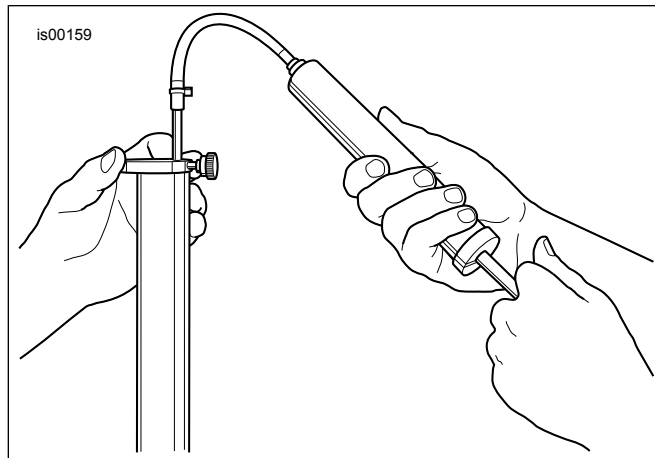

Figure 5. Remove Excess Fork Oil
- d. See Figure 5. Insert rod into top of fork tube until metal ring rests flat on top of fork tube.